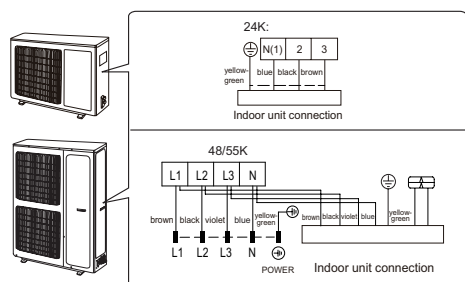

Fig.23
- (1) Remove the wire clip; connect the power connection wire and power wire to the wiring terminal according to the color; fix them with screws.(As show in Fig.23)